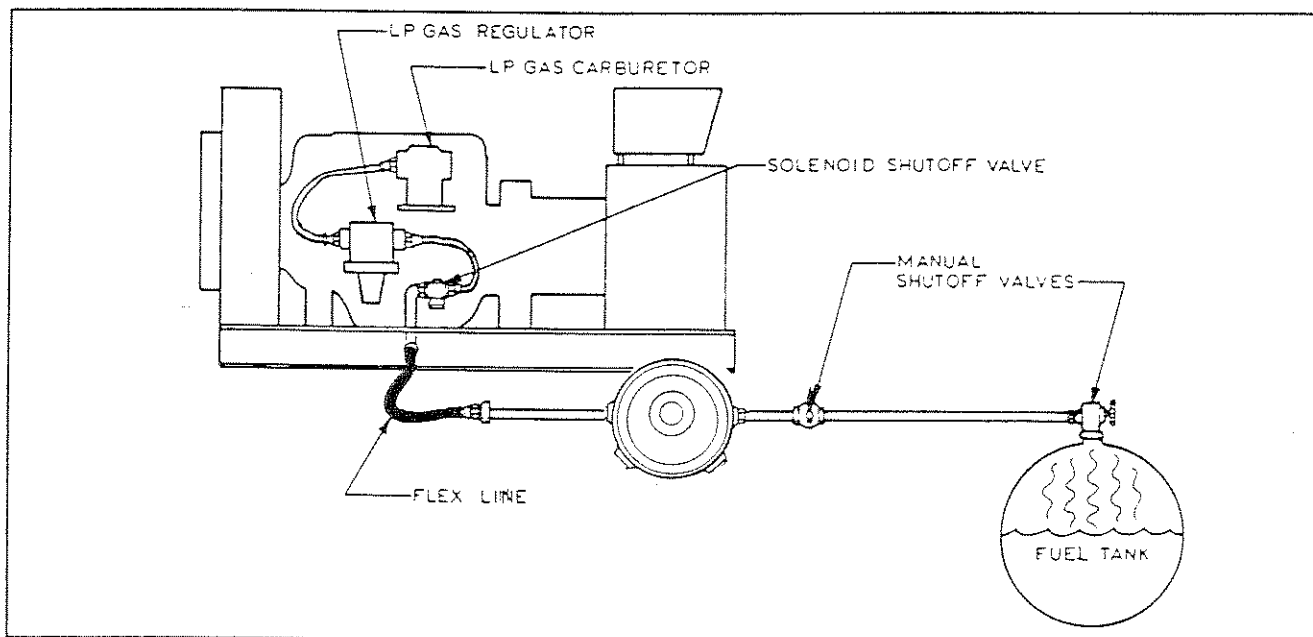
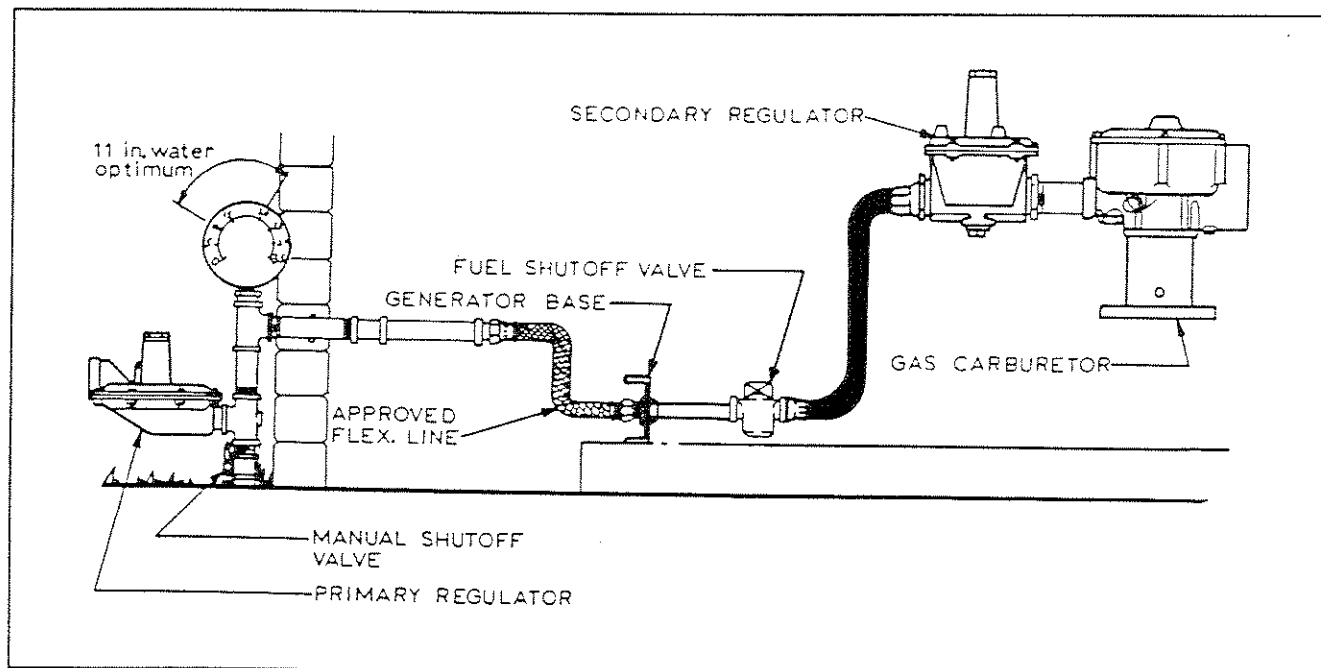

Figure 7. Typical LP Gas Fuel System
Figure 8. Typical Natural Gas Fuel System
- A schematic diagram of a simple propane (LP) gas vapor withdrawal system is shown in Figure 7. A typical natural gas fuel system is shown in Figure 8.